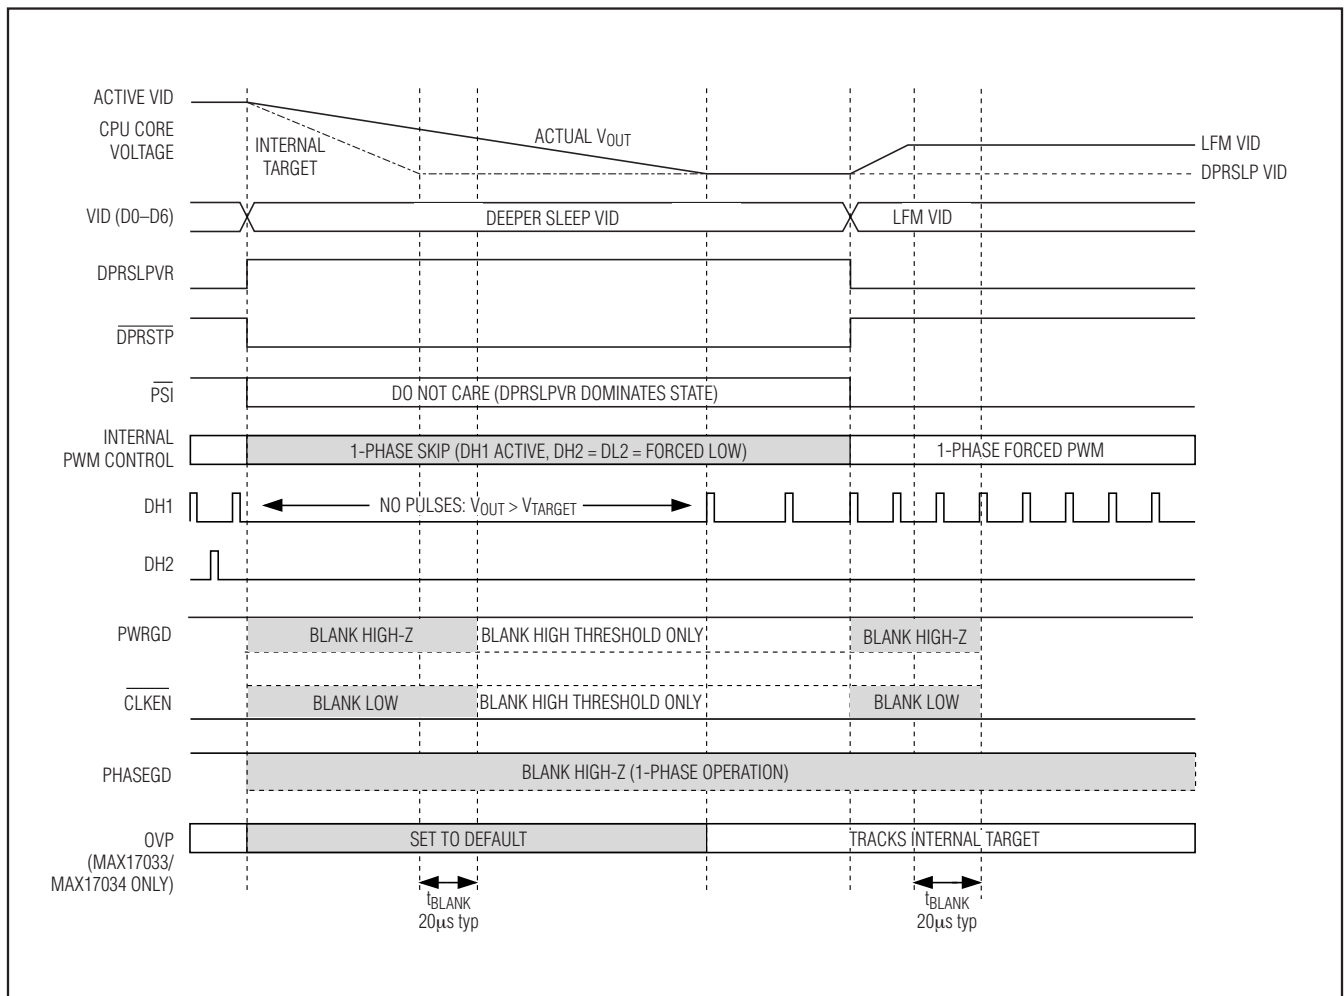

Figure 6. Standard C4 Transition
- Standard C4 Deeper Sleep Exit:** When exiting deeper sleep (DPRSLPVR pulled low) while the output voltage is regulating to the deeper sleep voltage, the MAX17033/MAX17034/MAX17434 immediately activate all enabled phases and ramp the output voltage to the LFM DAC code provided by the processor at the slew rate set by RTIME. The controller blanks PWRGD, PHASEGD, and CLKEN until 20 μ s after the transition is completed. See Figure 6.